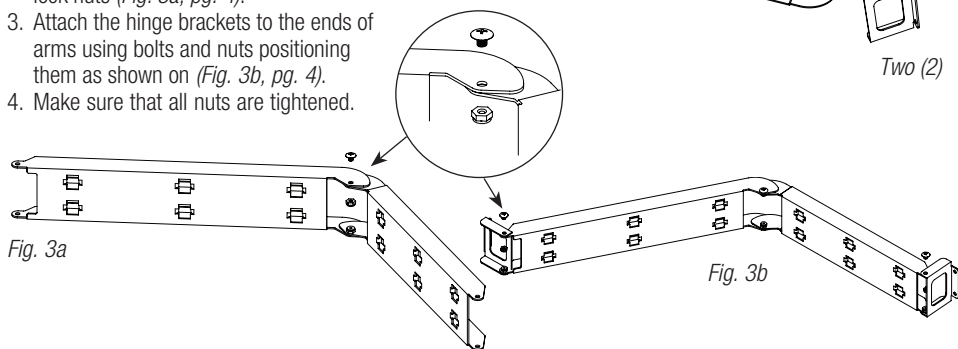

Fig. 3b
3. Attach the hinge brackets to the ends of arms using bolts and nuts positioning them as shown on (*Fig. 3b*, pg. 4).